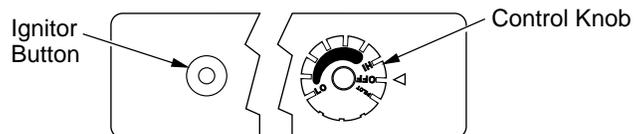

Figure 29 - Control Knob and Ignitor Button
- Wait five (5) minutes to clear out any gas. Then smell for gas, including near the floor. If you smell gas, **STOP!** Follow "B" in the safety information above. If you don't smell gas, go to the next step.
- Turn control knob counterclockwise  to the PILOT position. Press in control knob for five (5) seconds (see Figure 29).